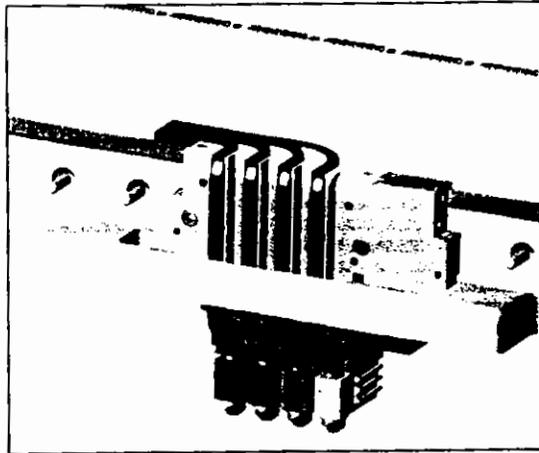

Figure 10- Positioning leads
- 6.9.2 Position the first layer of (4) conductors into the conductor slots in the lower lead guide block. The conductors shall be placed in alternating slots. Care must be taken during this operation, to minimize any damage to the over wrap insulation. See figure 10.